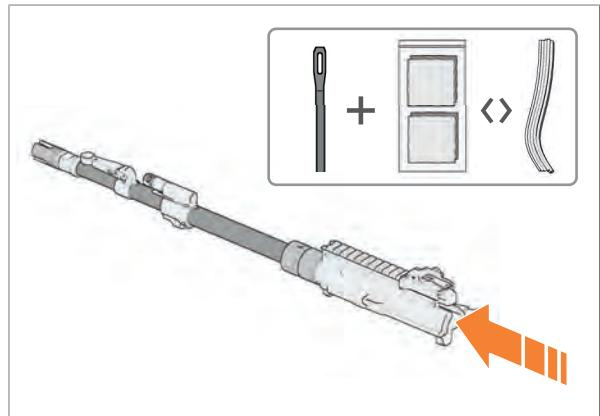

Fig. 107: Clean barrel
10. Pull clean cleaning pull-throughs / cleaning cloths through the barrel to remove heavy soiling (Fig. 107).